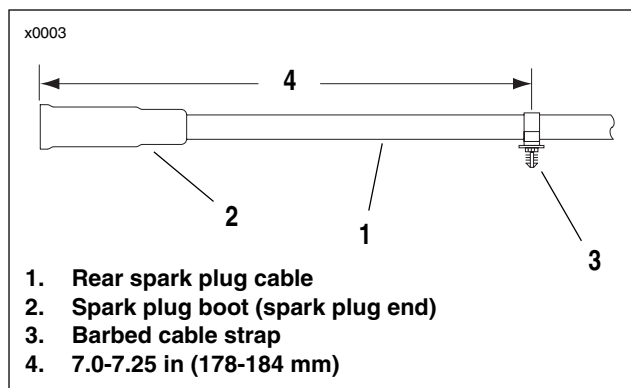

Figure 7-122. Rear Spark Plug Cable and Cable Strap
16. See Figure 7-122. If barbed cable strap (3) securing rear spark plug cable (1) to caddy latch clip was cut, install **new** barbed cable strap 7.0-7.25 in (178-184 mm) from tip of spark plug cable boot (2), orienting cable strap so that spark plug cable is above mounting boss on caddy latch clip when barbed prong on cable strap is inserted in hole in boss. Press cable strap barbed prong firmly into hole in caddy latch clip mounting boss.